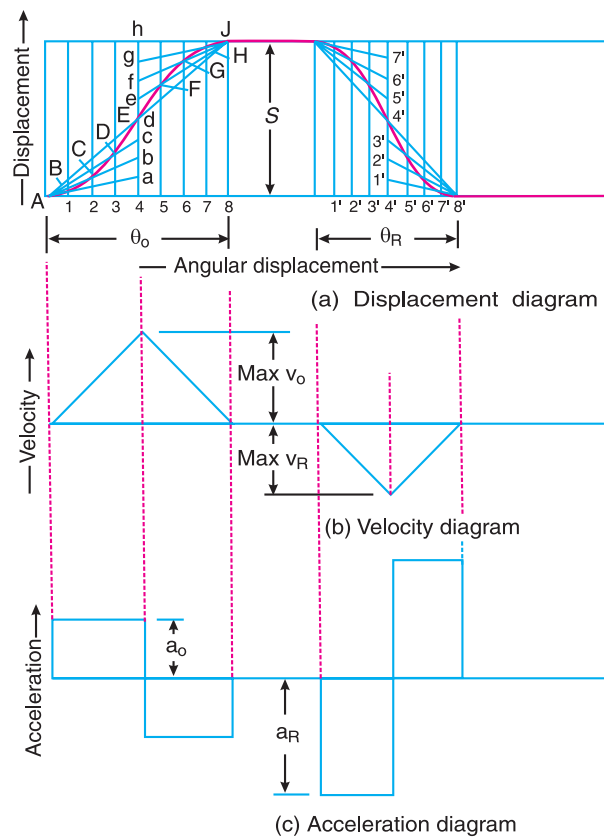

Fig. 20.8. Displacement, velocity and acceleration diagrams when the follower moves with uniform acceleration and retardation.
The displacement, velocity and acceleration diagrams when the follower moves with uniform acceleration and retardation are shown in Fig. 20.8 (a), (b) and (c) respectively. We see that the displacement diagram consists of a parabolic curve and may be drawn as discussed below :
1. Divide the angular displacement of the cam during outstroke (θ_O) into any even number of equal parts (say eight) and draw vertical lines through these points as shown in Fig. 20.8 (a).
2. Divide the stroke of the follower (S) into the same number of equal even parts.
3. Join Aa to intersect the vertical line through point 1 at B . Similarly, obtain the other points C, D etc. as shown in Fig. 20.8 (a). Now join these points to obtain the parabolic curve for the out stroke of the follower.
Since the acceleration and retardation are uniform, therefore the velocity varies directly with the time. The velocity diagram is shown in Fig. 20.8 (b).
We see from the acceleration diagram, as shown in Fig. 20.8 (c), that during first half of the outstroke there is uniform acceleration and during the second half of the out stroke there is uniform retardation. Thus, the maximum velocity of the follower is reached after the time $t_O/2$ (during out stroke) and $t_R/2$ (during return stroke).